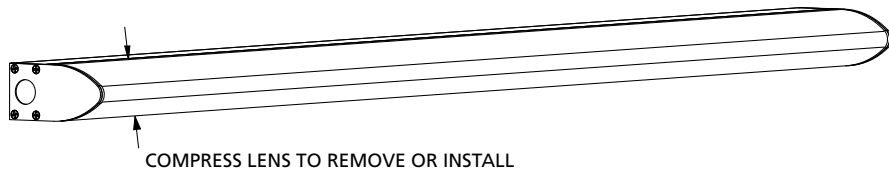

Figure 1
1. To remove lens compress sides together as shown. See Figure 1.
2. To remove lens compress sides together as shown. See Figure 1.